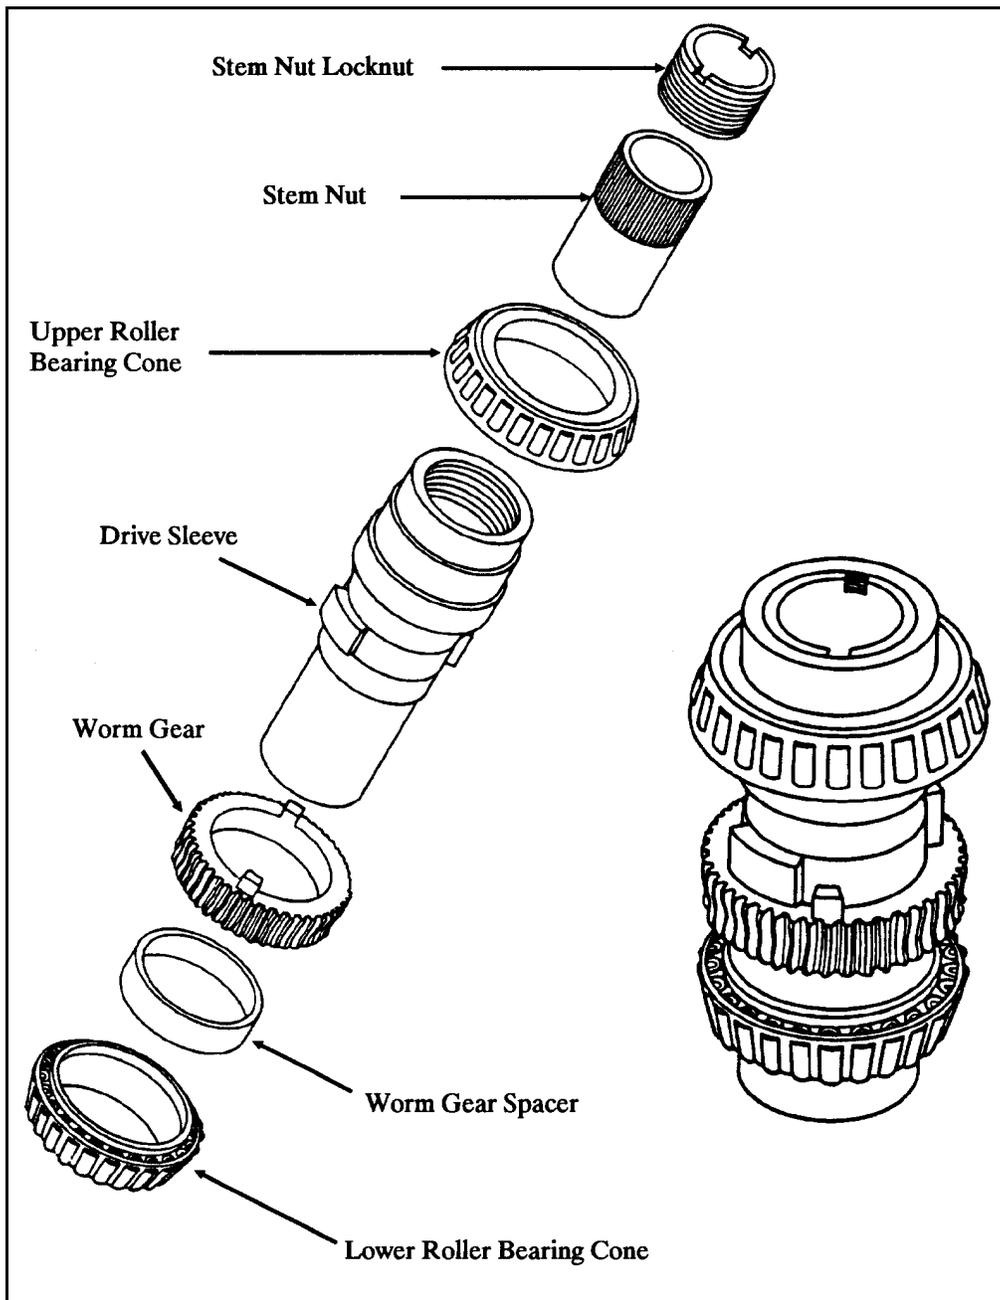

Figure 6-18 Drive Sleeve
22. Stem Nut Removal and Drive Sleeve Disassembly Refer to Figure 6-18
22b. Drive Sleeve Disassembly and Inspection Refer to Figure 6-18